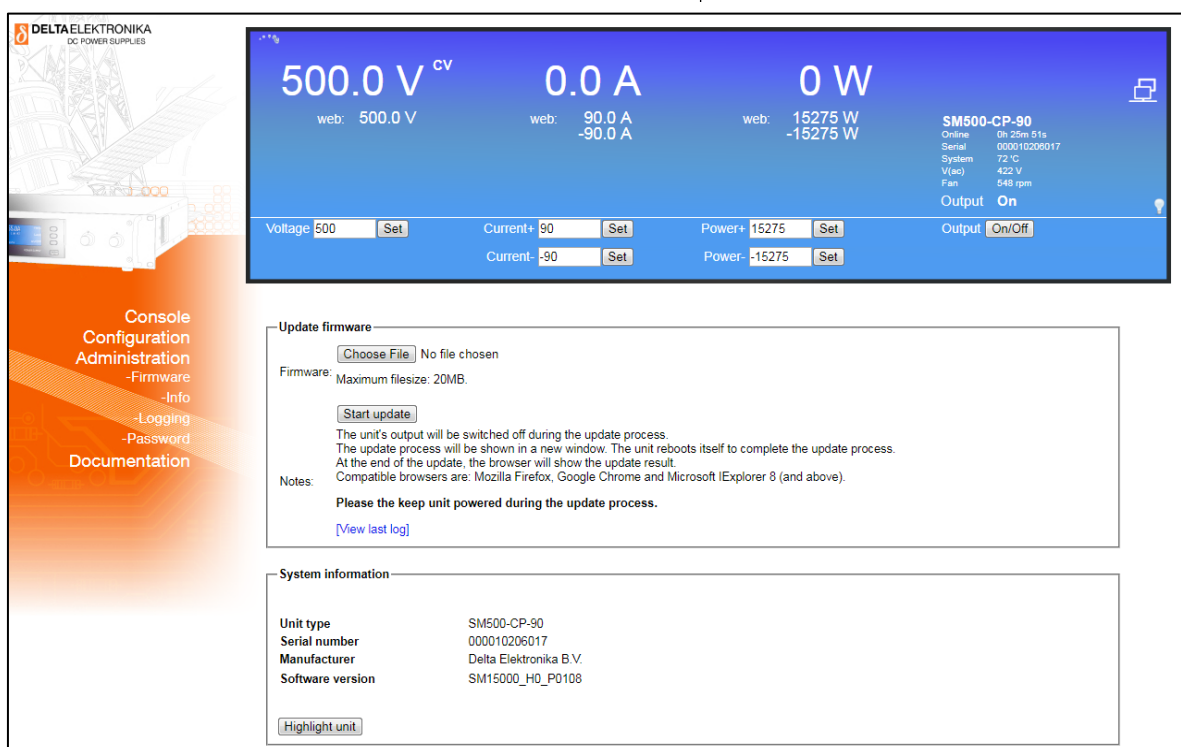

fig 7 - 3 - Via the web interface the downloaded firmware package can be uploaded to the unit.
- Select "Choose File" and browse to the downloaded package, enter password and "Start Update". See below figure 7 - 3 for a screen shot of the web interface.